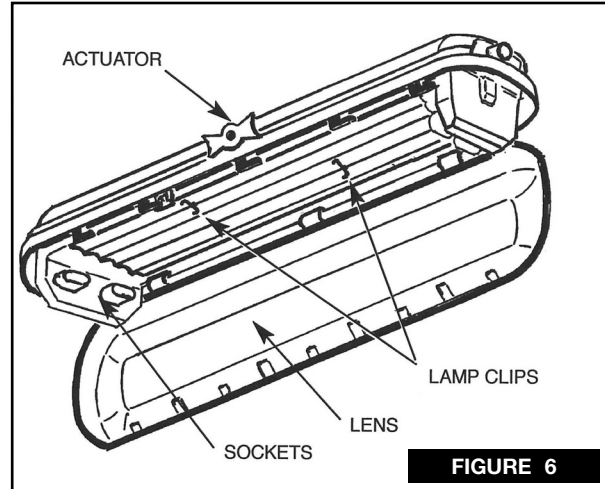

FIGURE 6
6. Install lamps, checking both lamp type and wattage for proper lamp. Make sure to secure the opposite ends of the lamps in place in the lamp clips (FVP only) attached to the fixture reflector, as shown in figure 6.
RELAMPING INSTRUCTIONS FOR 40 WATT PL-L LAMPS: FIGURE 6